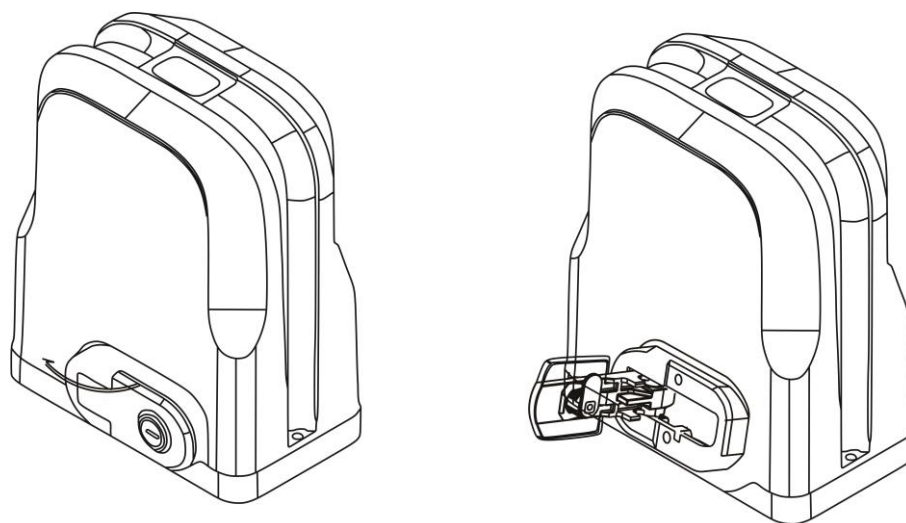

Figure 5: Turn on 90°
- Please unlock the main engine before installation, the unlock method is: remove the rubber key cover, insert the key, and open the manual release bar till it rotates by 90° as shown in Figure 5. Then turn the output gear and the gear can be rotated easily;